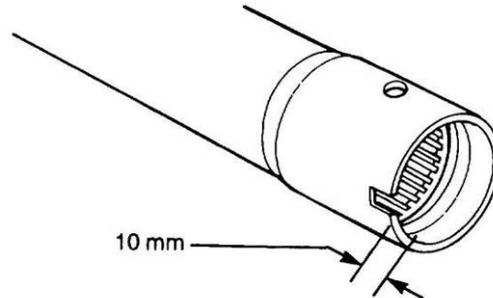

Figure 142 Installation of the Upper Column Bearing
- b. Press in a new needle roller bearing to the top of the steering column, ensuring that a gap of 10 mm (0.39 in) is obtained from the bearing to the end of the column (Figure 142).